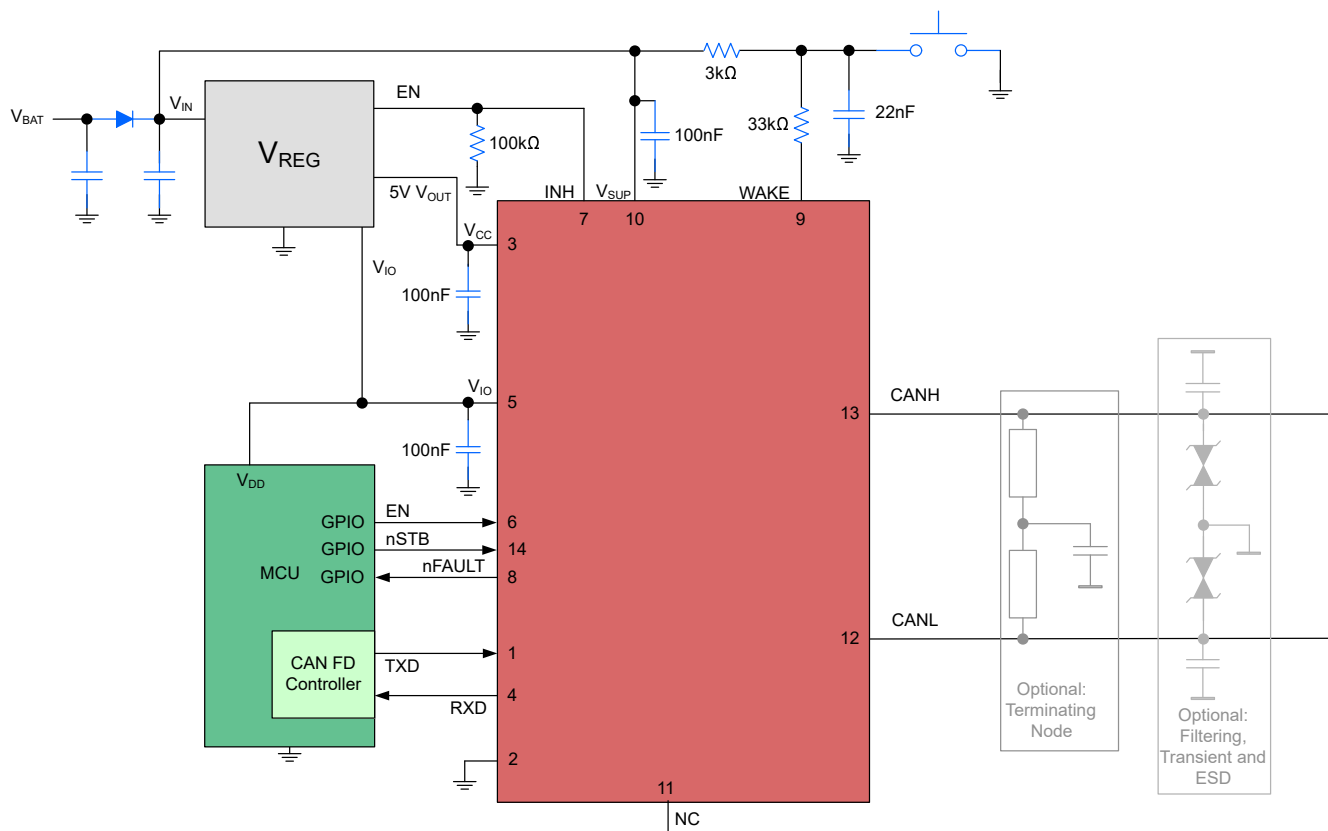

Figure 8-1. Typical Application
The TCAN843-Q1 transceiver is typically used in applications with a host microprocessor or FPGA that includes the data link layer portion of the CAN protocol. These types of applications usually also include power management technology that allows for power to be gated to the application via an enable (EN) or inhibit (INH) pin. A single 5V regulator can be used to drive both V_{CC} and V_{IO} , or independent 5V and 3.3V regulators can be used to drive V_{CC} and V_{IO} separately as shown in Figure 8-1. The bus termination is shown for illustrative purposes.